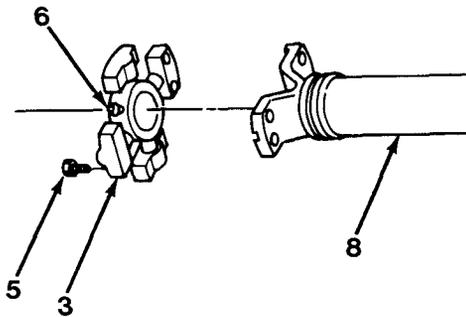
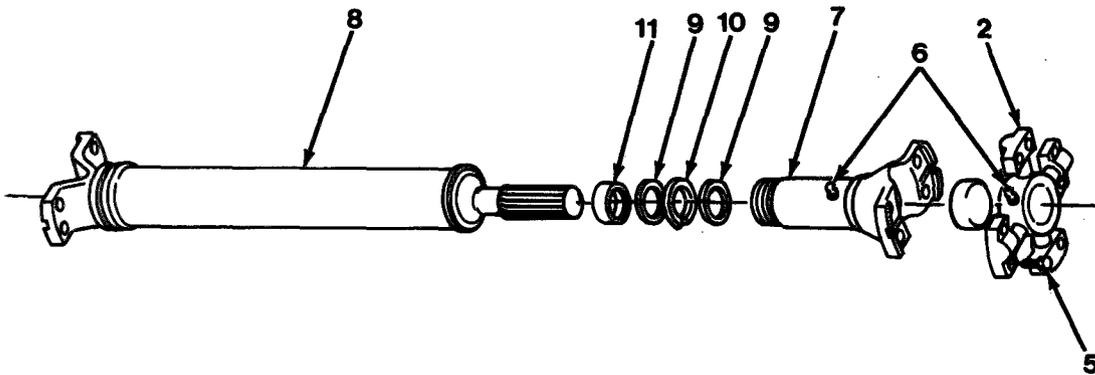

Figure 12-3
Figure 12-4
1. Remove four capscrews (5) and rear spider bearing assembly (3) from tube assembly (8, Figure 12-3).
2. Remove grease fitting (6).
3. Remove four capscrews (5) and front spider bearing assembly (2, Figure 12-4).
4. Remove two grease fittings (6).
5. Unscrew dust cap (11).
6. Separate slip yoke assembly (7) from tube assembly (8).
7. Remove split washer (9), felt washer (10) and split washer (9).
8. Remove dust cap (11).
1. Install two grease fittings (6, Figure 12-4).
2. Install dust cap (11) on tube assembly (8).
3. Install split washer (9), felt washer (10) and split washer (9) on tube assembly (8).
4. Install tube assembly (8) into slip yoke assembly (7).
5. Tighten dust cap (11).
6. Install front spider bearing assembly (2) and four capscrews (5).
7. Install rear spider bearing assembly (3) and four capscrews (5) to tube assembly (8, Figure 12-3).
8. Install grease fitting (6).
9. Torque eight capscrews (5) to 50 lb-ft (68 N•m).